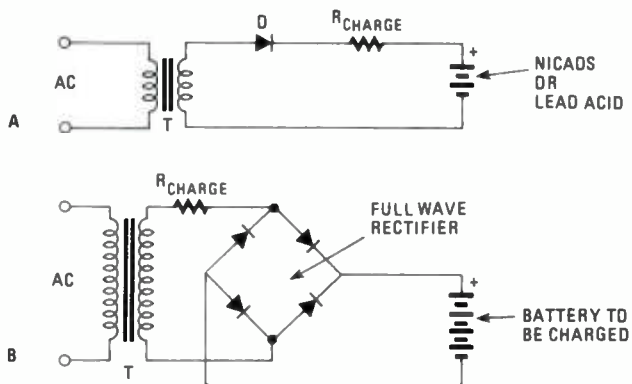

Fig. 3—The basis of any wall-power charger is a transformer-rectifier circuit. Note that such a circuit is only good for very low charging rates.
NiCd charging circuits are a piece of cake. Figure 3 shows two schematics for the world's simplest chargers. Once we know what's going on there, we'll see about adding a couple of bells and whistles. There are some basic rules to follow when you put one of the circuits together: (1) The output of the transformer has to be between two and three times the voltage of the battery. (2) Use a diode with a PIV of twice the transformer output and capable of carrying the charging current. (3) The wattage of the current-limiting resistor has to be large enough to safely handle the transformer output voltage and charging current.